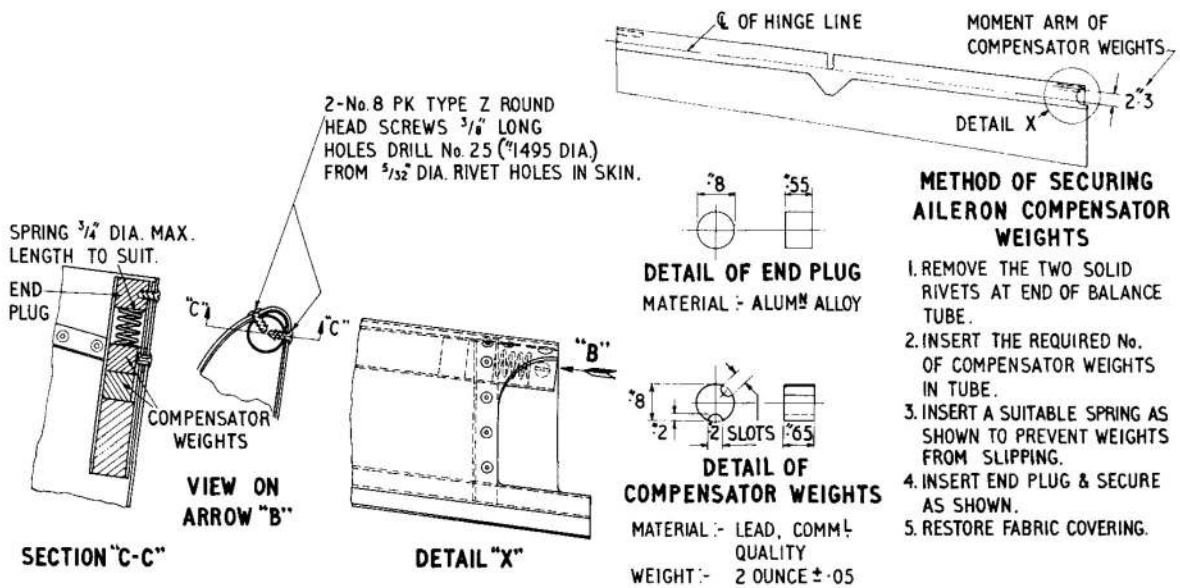

Fig. 8/16. Method of securing aileron compensator weights
10. Incidental to the repair of an aileron it may become necessary to adjust the mass balance weight. This should be done as shown in fig. 8/16.